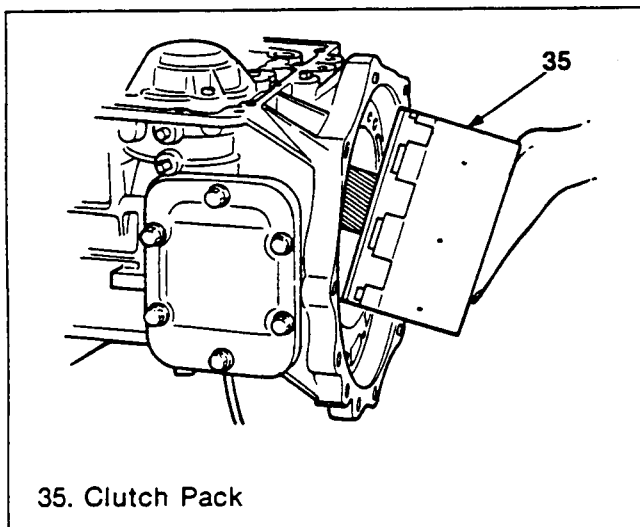

Figure 269. Clutch Pack Installation
6. Install the clutch pack into the front carrier (figure 269).